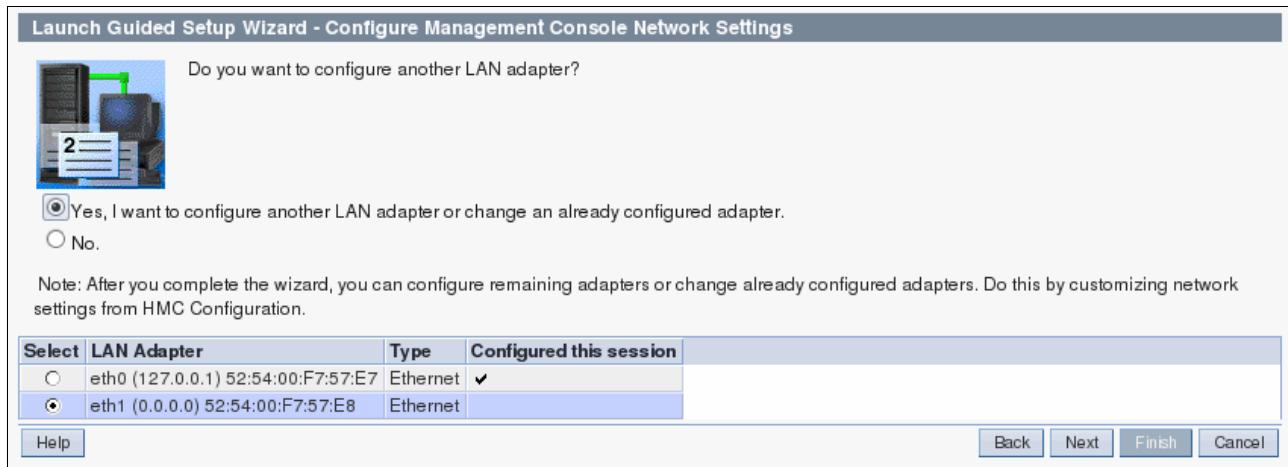

Figure 3-91 Select eth1 for configuration
20. Select **Yes**, be sure **eth1** is selected, and then click **Next** (Figure 3-91).